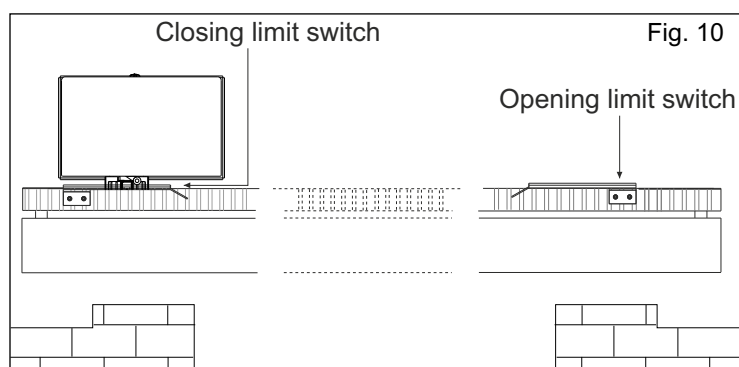

Fig. 10
6.1. To set up and adjust the limit switches in opening, follow the instructions written here (Fig. 10):